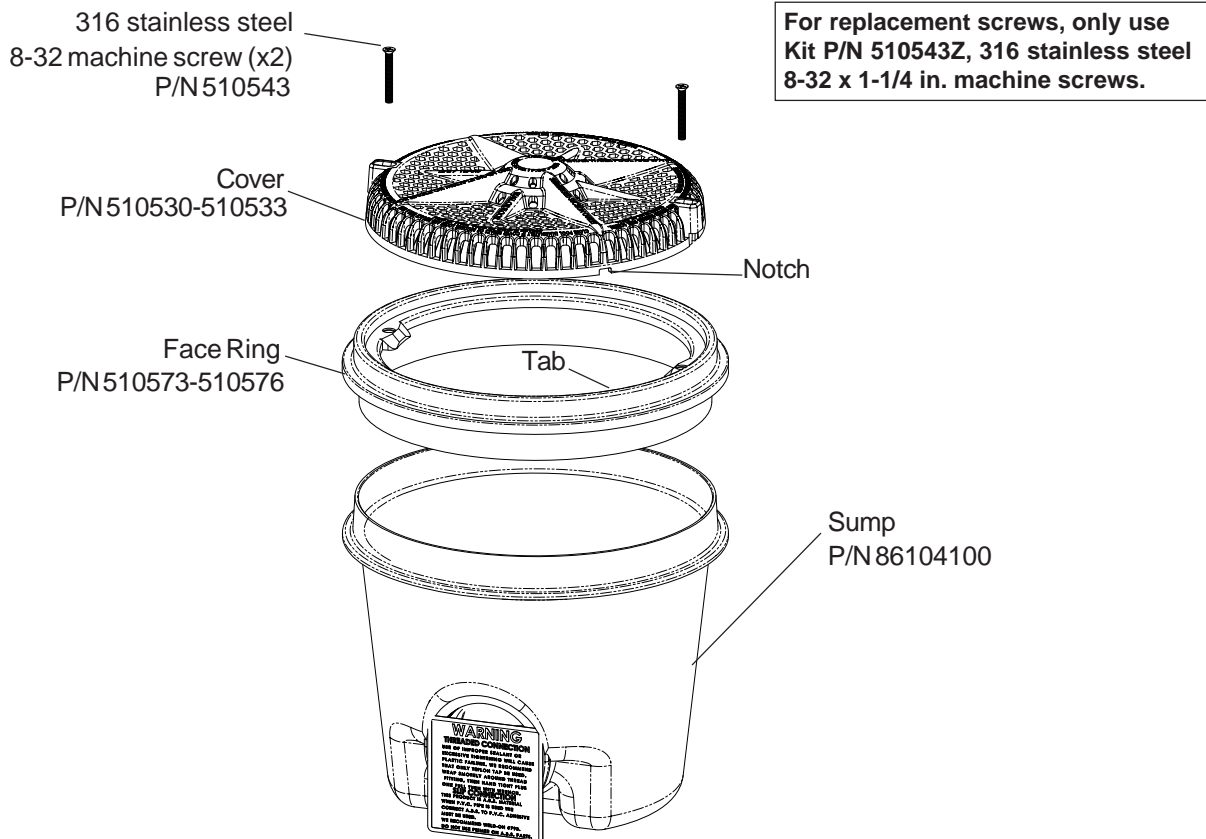

Figure 1
- Mount the drain cover on top of the face ring/suction outlet (see Figure 1).
- Install the two (2) 316 stainless steel 8-32 machine screws (provided) into the holes in the top of the cover. Using a No. 2 Philips head screwdriver, tighten each retaining screw to a **torque value of 10.00 (minimum) to 15.0 (maximum) in/lbs** to secure the cover. **DO NOT OVER TIGHTEN THE SCREWS. DO NOT ASSEMBLE WITH POWER TOOLS.**